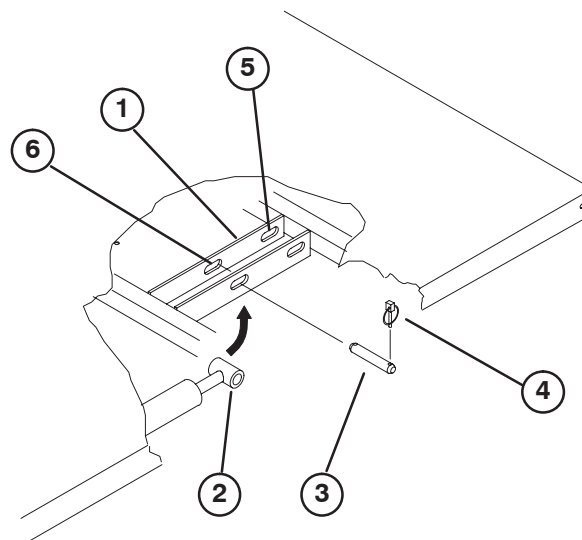

Figure 9
2. Remove lynch pins from outer ends of cylinder rod clevis pins (Fig. 9).